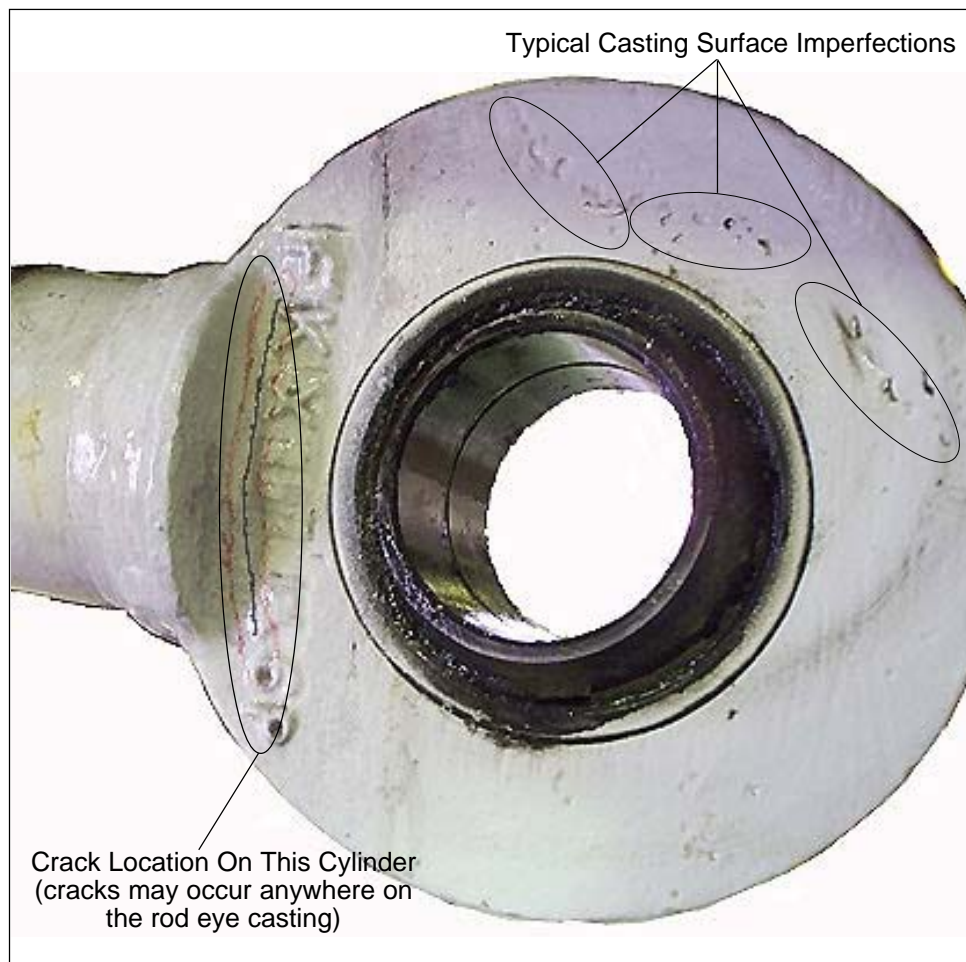

Figure 2 — Cracks And Surface Imperfections
6. Look at the flat area on both sides of the cylinder rod end on the area just above the rod end. Also look at the rounded area of the rod end where the pin bearing is located. Flaws/cracks can occur on any part of the rod eye casting. Use a bright light (trouble light or flashlight) to help identify any flaws/cracks. Flaws/cracks will appear as longitudinal hairline surface imperfections (refer to Figure 2). The surface of the rod eye casting will have small dimples and other rough areas from the casting process. Those normal surface imperfections should not be confused with an actual crack that will appear more as a line.